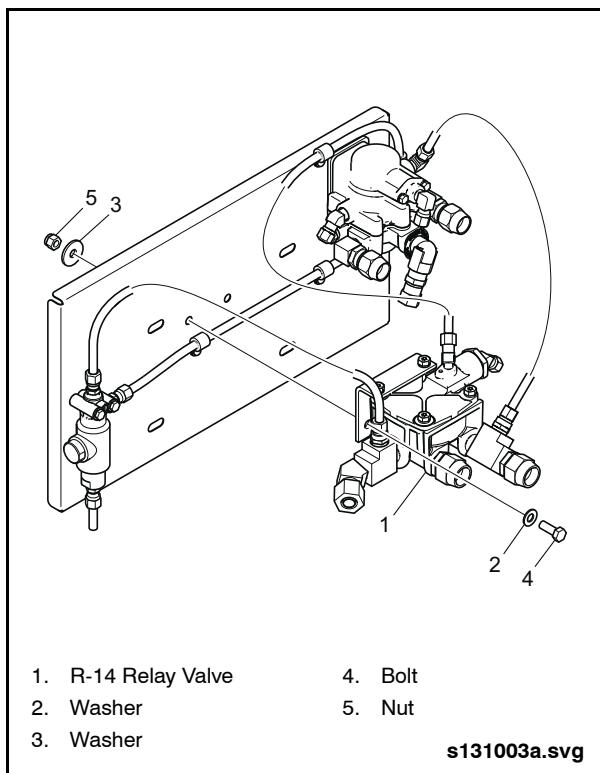

Fig. 8-16: R-14 Relay Valve Installation
5. Remove mounting bolts and then valve. See "Fig. 8-16: R-14 Relay Valve Installation" on page 63.